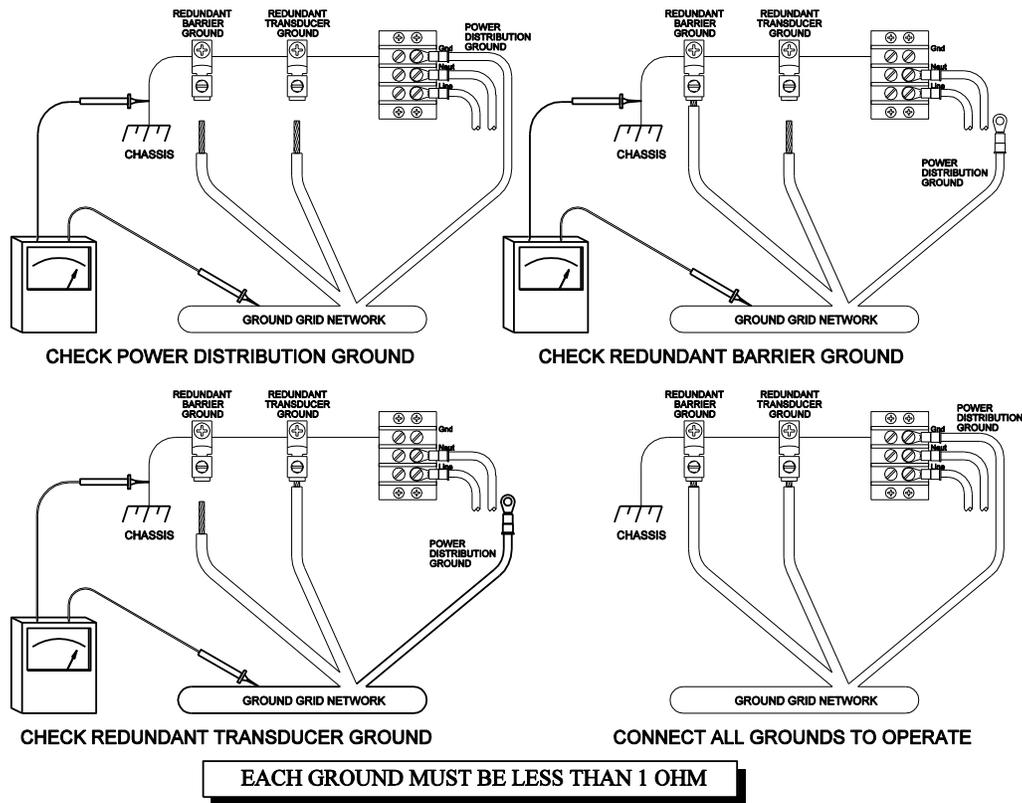

Figure 4-3 Earth Ground Connections
**Caution.** Connection to Earth Ground must be made and tested *BEFORE* any other connections (other than power) are made. Make sure all signal, computer, transducer, sensor, relay, input or output connections are disconnected at this time. Connections other than ground may result in a false ground impedance measurement. (See Figure 4-3)
Refer to figure 4-3 for measurement details.